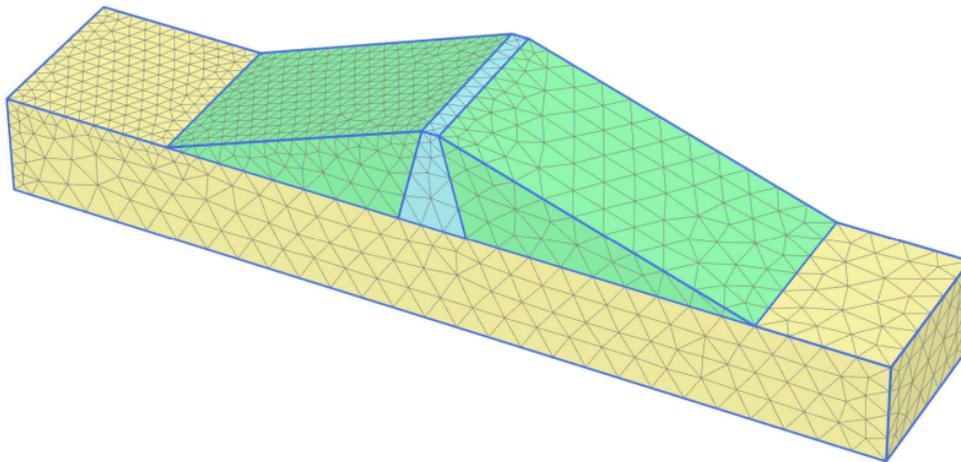

Figure 107: The generated mesh
4.  Click the **View mesh** button in the side toolbar to preview the mesh. The resulting mesh is displayed on Figure 107 (on page 133):